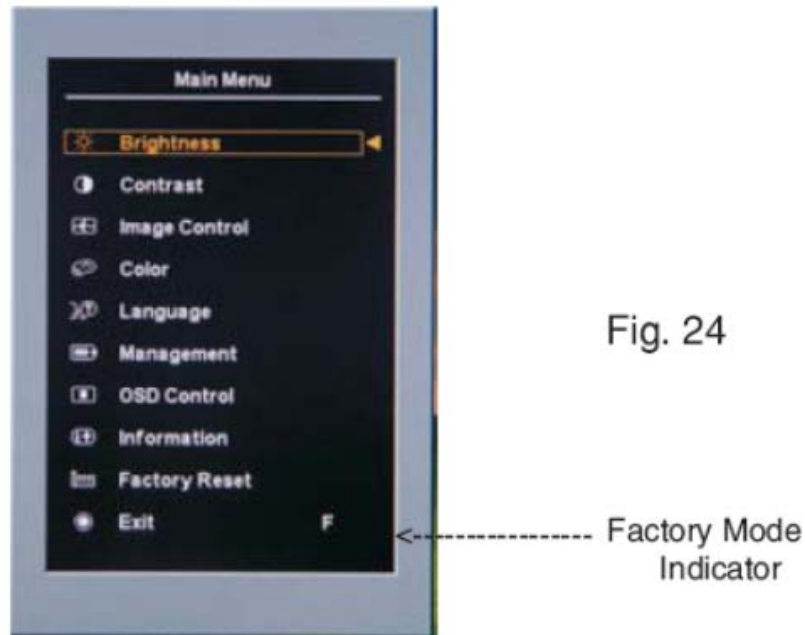

Fig. 24
2). [Push "Auto Adjust " and " +(plus)" and hold them at the same time] + [Press power "Power " button until comes out "Windows screen"] => then release all button, then press "Menu" button, wait until the OSD menu with Characters "F" (below OSD menu) come on the Screen of the monitor (see Fig. 24).